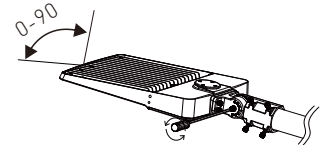

Figure 1-4
- Step4: If the installation angle of the fixture needs to be adjusted, loosen the screws of the bracket, and fix them again after finished adjustment, Figure 1-4;